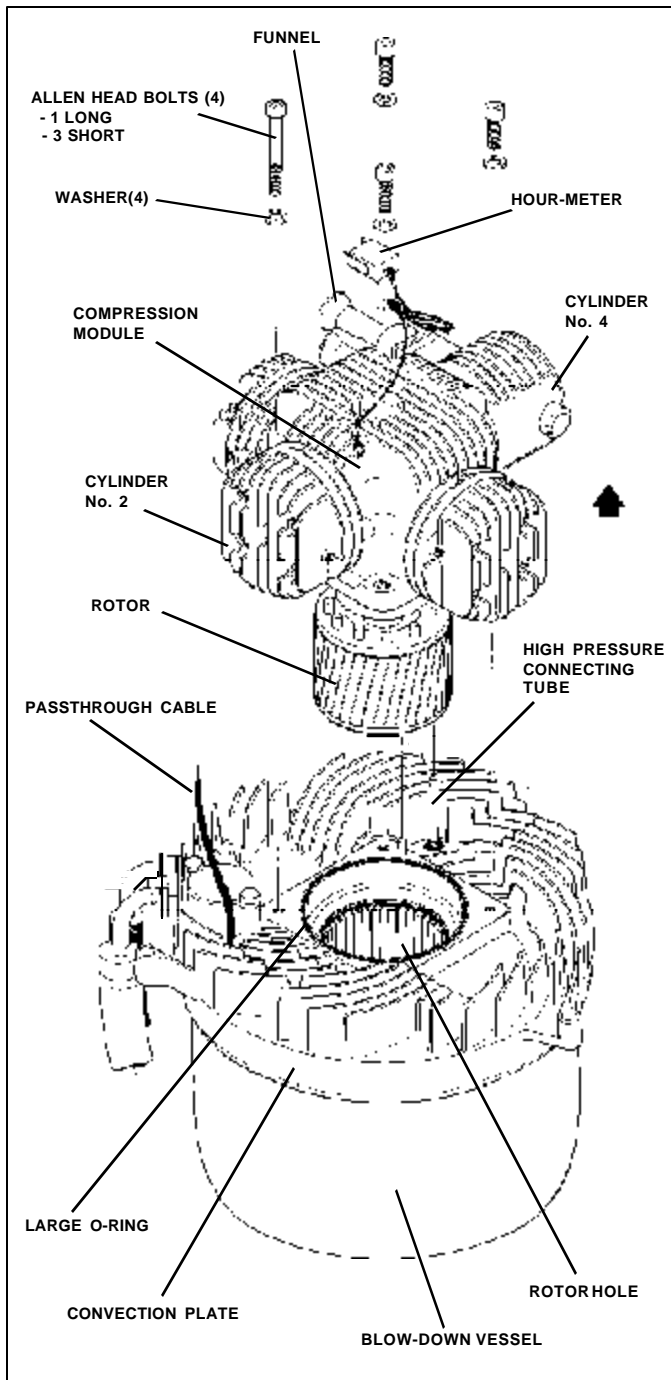

Figure 9 Compression Module Removal
- Completely remove the 4 *Compression Module* bolts and washers (See Figure 9).
NOTE: To prevent damage in transit - Before packaging the *Compression Module* for shipment to a maintenance/repair facility, remove and retain the *funnel* and secure the *hour-meter* in the pocket provided using tape (See Figure 9).